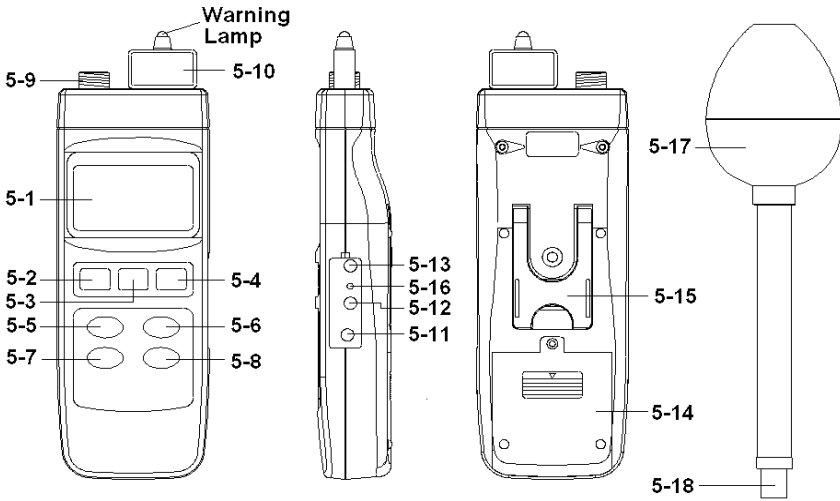

Fig. 1
- 1) Connect the " Probe Plug " ( 5-18, Fig. 1 ) into the " Probe Input Socket " ( 5-9, Fig. 1 ).
- 2) Plug in the exclusive " Probe Memory Card " ( 5-10, Fig. 1 ) into the front end socket of meter.
Make sure to use the " Frequency Team Button " ( 5-5, Fig. 1 ) ) to select the convenient point that according the measurement object.
After inserting the " Probe Memory Card " ( 5-10, Fig. 1 ) and connecting " Probe Plug " ( 5-18, Fig. 1 ) into the " Probe Input Socket " ( 5-9, Fig. 1 ), use " Unit Button " ( 5-6, Fig. 1 ) to select the " V/m, W/m2, mW/cm2 ".
- 1) Use the " Freq. Team Button " ( 5-5, Fig. 1 ) to select the proper frequency team.
- 1) Press the "Alarm Button " ( 5-8, Fig. 1 ) once to start the alarm function, while the " units " symbol will flash on the display.
- 2) Press the " Alarm Button " ( 5-8, Fig. 1 ) once again to stop the alarm function.
- 3) Press the " Alarm Button " ( 5-8, Fig. 1 ) continuously and over 2 seconds, the "Alarm low limit value " will indicate on the lower display, use the " ▼, ▲ Buttons " to adjust the desiring low limit value.
- 4) Press the " Enter Button " ( 5-4, Fig. 1 ) will save the low limit value and going to adjust the " High limit value, procedures will similar as above.
- 5) After finish the " High limit value " adjustment, press the " Enter Button " ( 5-4, Fig. 1 ) will save the high limit value and going to adjust the alarm Hysteresis value, procedures will similar as above. Upon finish the alarm " Hysteresis value " adjustment, press the " Enter Button " ( 5-4, Fig. 1 ) will save the data.
- 6) Press the " ESC Button " ( 5-3, Fig. 1 ) to finish alarm setting procedures.
During the measurement, press the " Hold Button " ( 5-3, Fig. 1 ) once will hold the measured value & the LCD will indicate a " HOLD " symbol. Press the " Hold Button " once again will release the data hold function.
- \* The data record function records the maximum and minimum readings. Press the " REC Button " ( 5-4, Fig. 1 ) once to start the Data Record function and it will be a " REC " symbol on the display.
- a) Press the " REC Button " ( 5-4, Fig. 1 ) once, the " REC MAX " symbol along with the maximum value will appear on the display. Press the " REC Button " ( 5-4, Fig. 1 ) once again, the " REC MIN " symbol along with the minimum value. If intend to delete the maximum ( Minimum ) value, just press the " Hold Button " ( 5-3, Fig. 1 ) once, then the display will show the " REC " symbol only & execute the memory function continuously.
- b) To exit the memory record function, just press the " REC Button " 5-4, Fig. 1 ) 2 seconds continuously at least. The display will revert to the current reading.
Press the " Peak Hold Button " ( 5-7, Fig. 1 ) once to latch peak value on the display , press once again to exit the peak hold function.
To de-activate this feature, Select the memory record function during measurement, by pressing the " RECORD " button ( 5-4, Fig. 1 ).
The instrument has RS232 PC serial interface via a 3.5 mm terminal ( 5-12, Fig. 1 ).